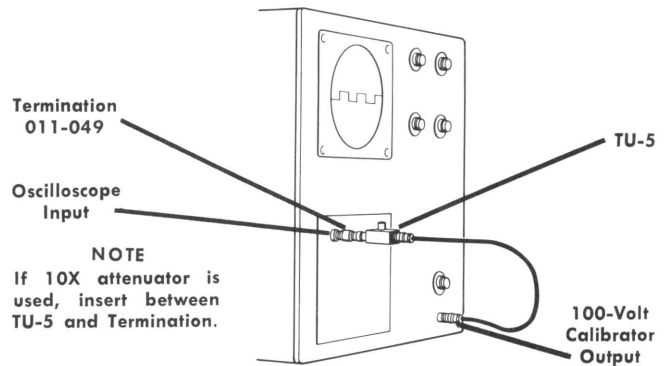

Fig. 2. Proper connection of the TU-5 and Termination to the oscilloscope Input and Calibrator.
Whenever possible, use the connection method shown in Fig. 2. Connect the termination as close as possible to the input of the plug-in to reduce undesirable reactances and provide a clean step-function at the input to the plug-in unit.
1. With the TU-5 and termination connected as shown in Fig. 2, set the bias control fully counterclockwise and the oscilloscope Amplitude Calibrator for a 100-volt output.